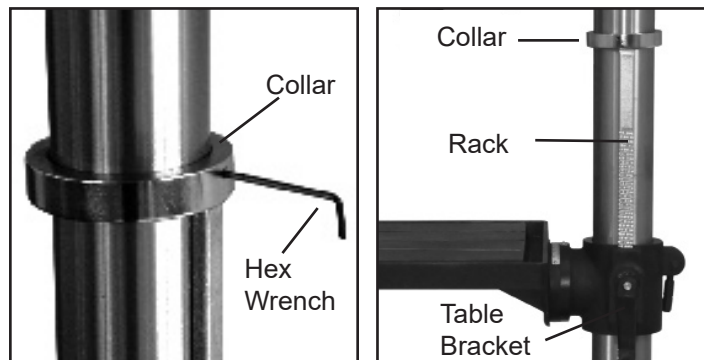

Figure 3
6. Replace the column collar on top of the rack, and secure it in place with a hex wrench. Fig. 3.